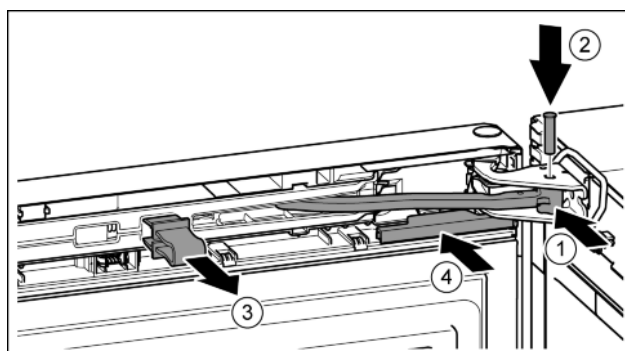

Fig. 22
- Turn the hinge in the bearing bracket. Fig. 22 (1)
- Insert the bolt in the bearing bracket and hinge. Make sure that the catch mechanism is sitting correctly in the groove. Fig. 22 (2)
- Remove the locking device. *Fig. 22 (3)*
- Slide on the cover. *Fig. 22 (4)*